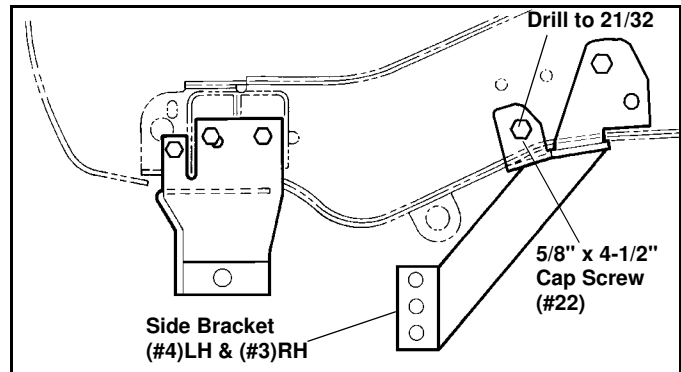

Figure 4
- **Front Holes:** An existing hole for a 5/8" Cap Screw will be present. On some vehicles the power steering pump mounting bolt can be used. On other vehicles a small existing hole will be present. If this occurs, use the hole in the bracket as a template to drill out the hole in the vehicle frame to 21/32". (See Figure 4.)